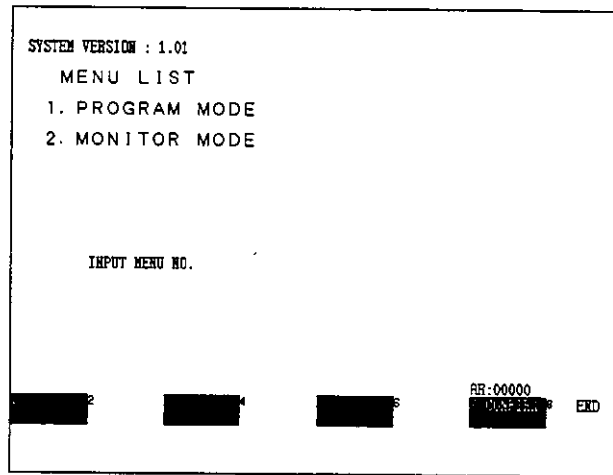

Figure 6.2
- (2) To change the mode after completing the Attach Operation, return to the Initial Display (see Figure 6.2) and select the mode from the Menu List.
- (3) To return to the initial display, either press the Supervisory Key and then select Initial Display, or press the Shift + Supervisory Keys.
In Monitor Mode, the labels Stop SC, Start SC, and Clear SC Memory are displayed. To return to the Initial Display (*Figure 6.2*) either select Initial Display or press the Shift + Supervisory Keys.